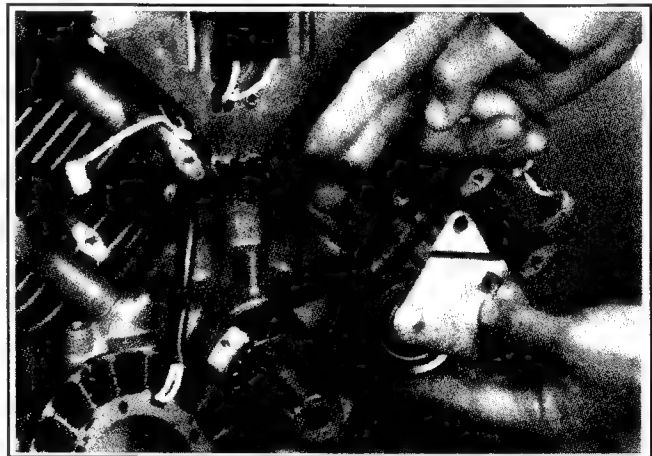

Figure 11-34. Routing Timing Belt Around Idler Sprocket.
8. With idler pulley assembly loose, route the belt around the idler sprocket. See Figure 11-34. Then install idler assembly as follows: